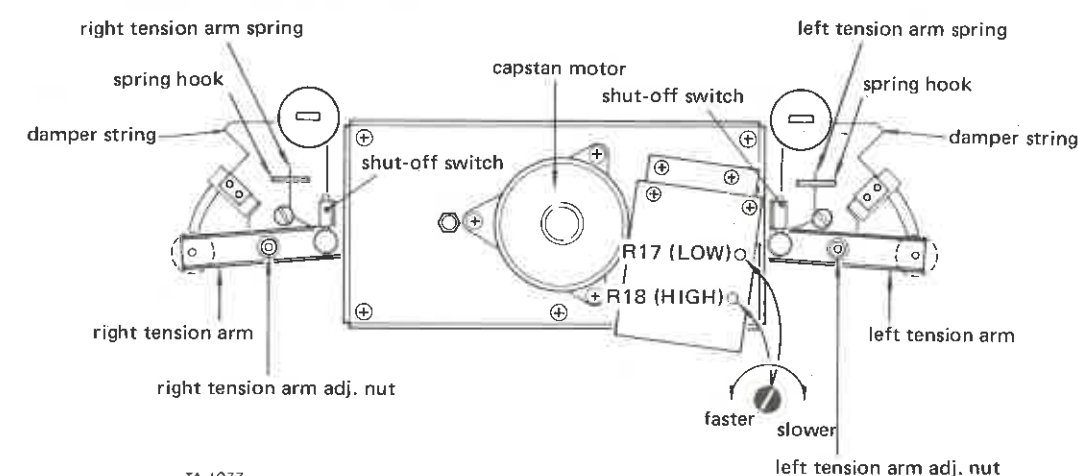

Fig. 2-8 Tension arm height, tension arm force, damper function, and tape speed
3. Stop left (right) guide roller's rotation by hand. Adjust by turning the left (right) tension arm adjusting nut (refer Fig. 2-8) so that the tape moves in the center of the guide roller.
3. Play the tape. Adjust R18 (see Fig. 2-8) for a reading of 3,000 Hz \pm 5Hz.